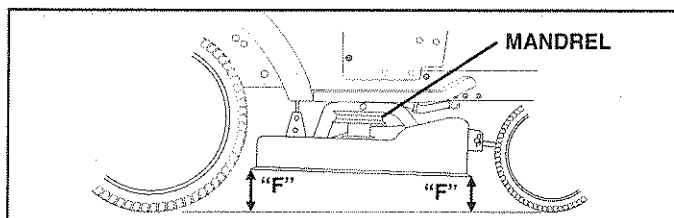

FIG. 22
**FRONT-TO-BACK ADJUSTMENT** (See Figs. 22 and 23) - **IMPORTANT:** DECK MUST BE LEVEL SIDE-TO-SIDE. IF THE FOLLOWING FRONT-TO-BACK ADJUSTMENT IS NECESSARY, BE SURE TO ADJUST BOTH FRONT LINKS EQUALLY SO MOWER WILL STAY LEVEL SIDE-TO-SIDE. To obtain the best cutting results, the mower housing should be adjusted so the front is approximately 1/8" to 1/2" lower than the rear when the mower is in its highest position.